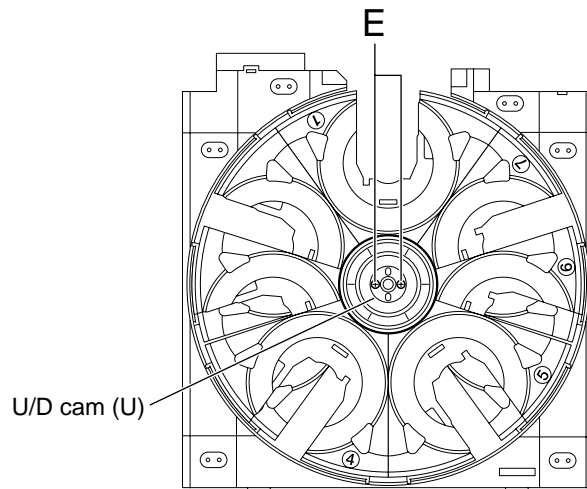

Fig.7
**■ Removing the U/D cam (U) (See Fig.7)**
1. Remove the two screws **E** attaching the U/D cam (U) on the upper side of the main tray assembly.